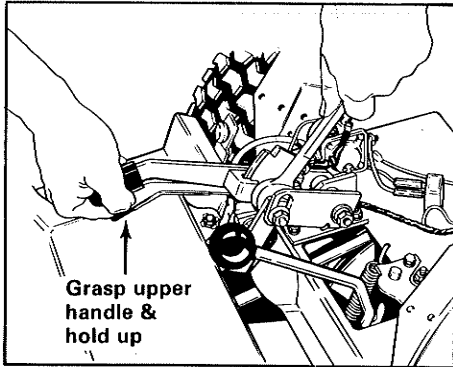

Figure 29. Tightening the Shoulder Bolt
- Tighten the shoulder bolt while holding the control lever up firmly as shown in figure 29. If the lever moves down at all while retightening, loosen the shoulder bolt and go back to step 11.